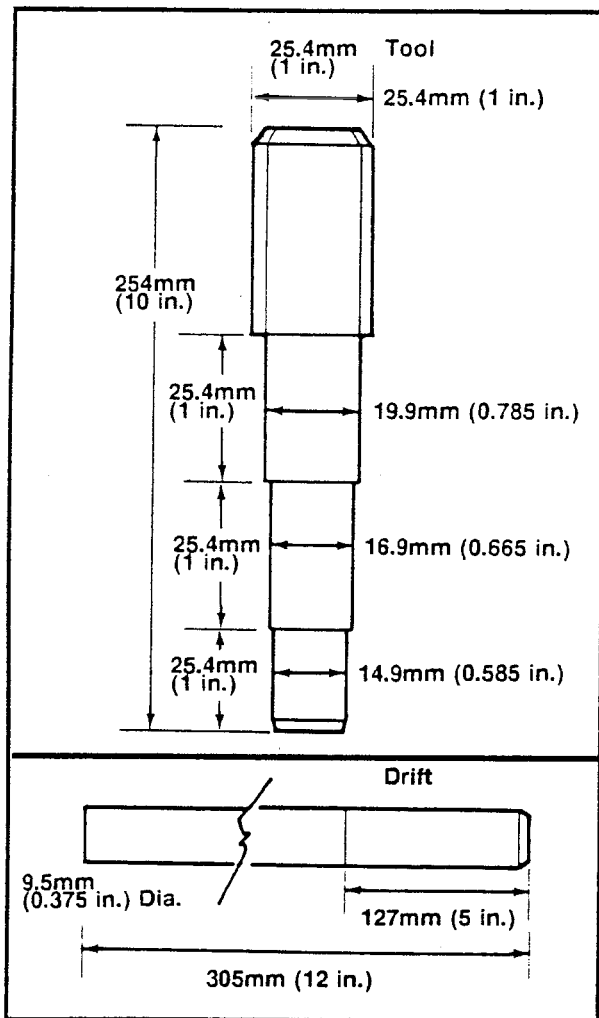

Figure 5-61. Fabricated Wheel Hub Bearing Removal/Installation Tool
See Figure 5-61. Fabricate a special tool as shown.
2. See Figure 5-61. Use a 9.5 × 305mm (3/8 × 12 in.) hardened steel rod and hammer and drive the opposite side wheel hub bearing (1) out from the inside. Move the inner spacer (2) aside and drive against the edge of the inner bearing race. Work your way around the edge, gradually driving out the bearing.
3. Turn the hub (3) over and drive the other bearing out, using the fabricated tool and the inner spacer.